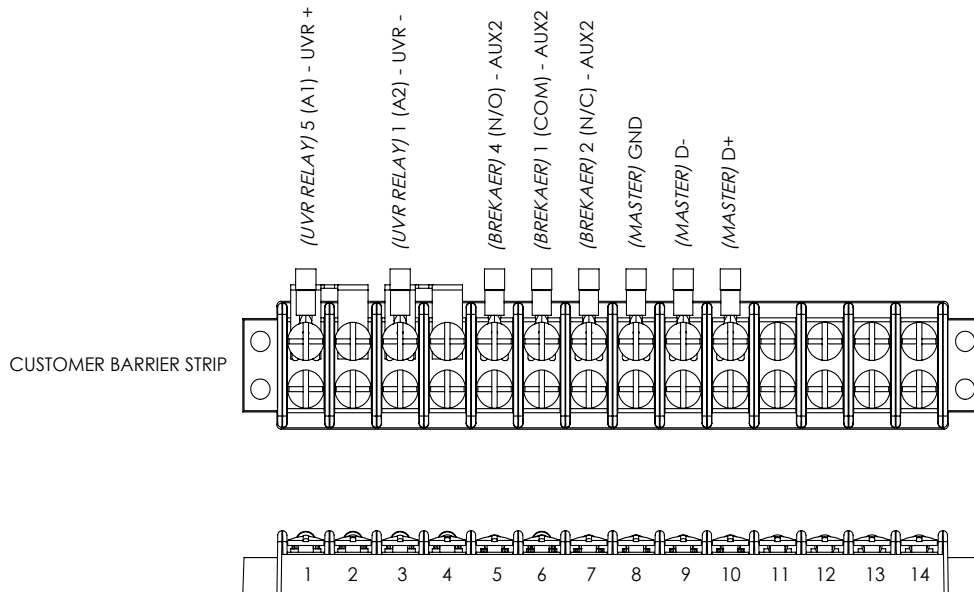

Figure 7. Pins 1,3 - UVR/Shunt Relay Access, Pins 5,6,7 (NO, COM, NC)
- a. UVR/SHUNT Relay – A relay coil is provided to facilitate external UPS connection to the battery circuit breaker, refer to the Figure. 7 for details. When the battery cabinet is configured with an UVR access, the circuit breaker cannot be turned on until UPS outputs its rated UVR voltage.
- b. AUX Circuit Breaker Access - Access to the Circuit Breaker status is provided via NO, NC and COM on the terminal block provided, see Figure. 7 for details.